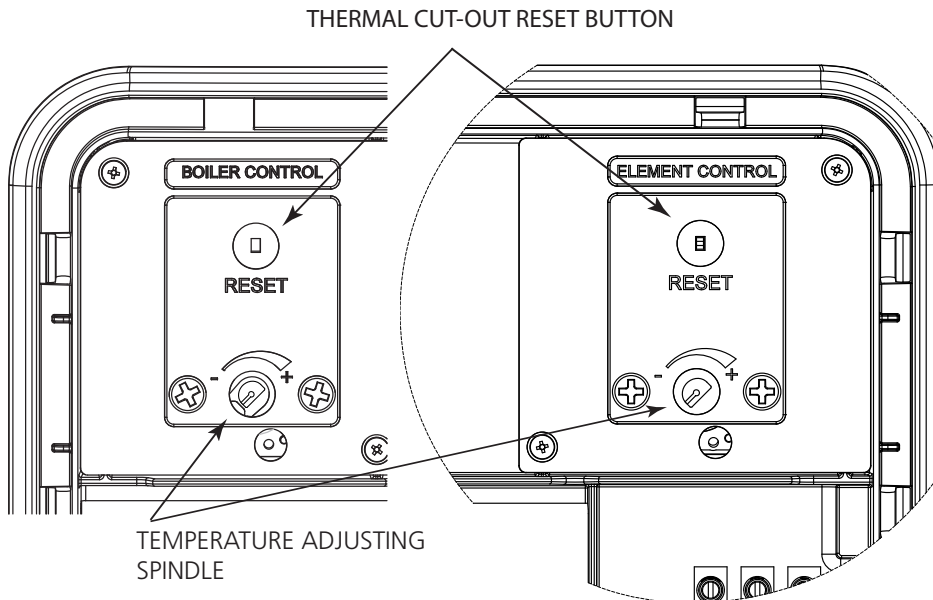

Figure 14: Thermostat adjustment
- ▶ The immersion heater thermostat is factory set at 60°C. Should this require adjustment see Fig 14 for details of how to adjust the temperature setting. Each immersion heater has its own individual thermostatic control. The thermostat incorporates a thermal cut-out that will switch off the immersion heater in the event of a thermostat failure. The thermal cut-out reset button position is also shown on Fig 14.
- ▶ The immersion heater and indirect control thermostats are factory set at 60°C. Should this require adjustment see Fig 14 for details of how to adjust the temperature setting. The immersion heater and indirect controls each has its own individual thermostatic control. The thermostats incorporate a thermal cut-out that will switch off in the event of a thermostat failure. The thermal cut-out reset button position is also shown on Fig 14.
- ▶ If necessary the temperature can be adjusted by inserting a flat bladed screwdriver in the adjustment spindle on front of the indirect (BOILER) thermostat and rotating (see Fig. 14 page 19 for details of how to adjust). The adjustment represents a temperature range of 10°C to 70°C.
- ▶ If necessary the temperature can be adjusted by inserting a flat bladed screwdriver in the adjustment spindle on front of the immersion heater (ELEMENT) control thermostat and rotating (see Fig. 14 page 19 for details of how to adjust). The adjustment represents a temperature range of 10°C to 70°C.